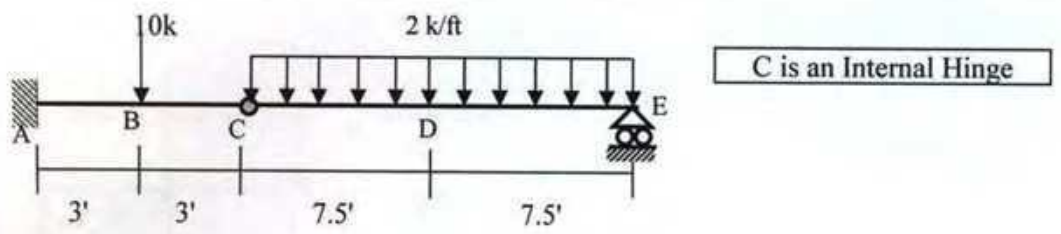

Fig.8
9. For the beam shown in Fig.8, use the singularity functions to calculate the deflections at C, D and rotations at the left and right of C [$EI= \text{constant}$].